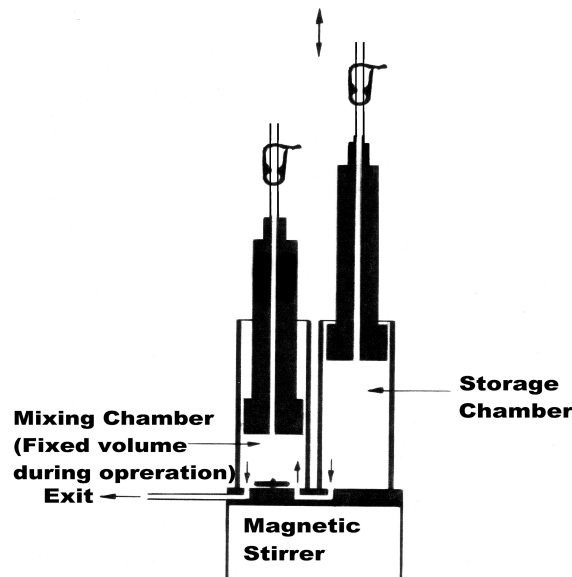

Fig. 3 EXPONENTIAL GRADIENT FORMER
Concave or convex exponential gradients can be produced using the Jule Gradient Former. For exponential gradient forming, the Gradient Former is arranged as shown in Fig. 3.
- 1) Refer to Fig. 3 to arrange gradient former for exponential gradient forming.